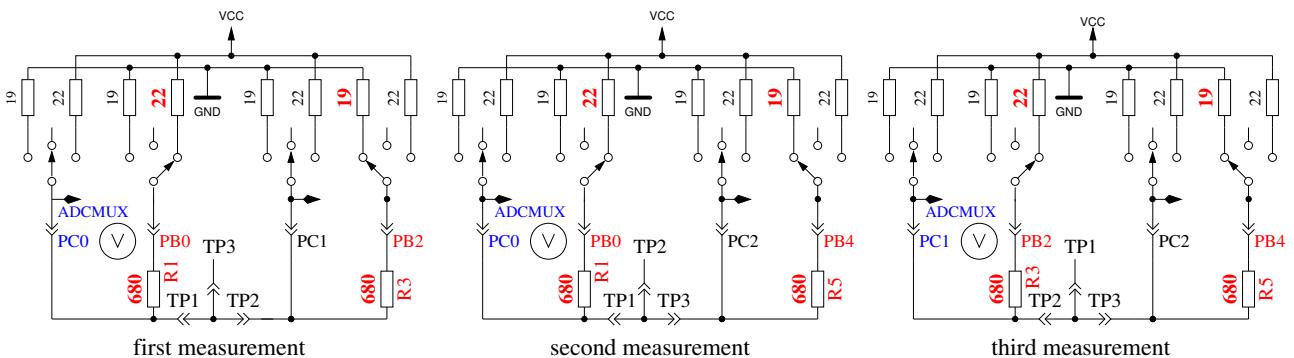

Figure 5.42: Comparison of 680Ω resistors
2. **Comparing of the 680Ω resistors.** In row 1 the cryptic text “+RL- 12 13 23” is shown. Meaning of this is as follows: The RL is the short form of Resistor Low meaning the 680Ω resistors. The 12 stand for: resistor at pin 1 is connected to VCC (+) and resistor at pin 2 is connected to GND (-). The result of this measurement is displayed in row 2 at the first place as difference to the theoretical value. In row 1 follows now a “13” which means, that the first connection of measurement 1 is still connected with 680Ω to VCC but that the resistor of pin 3 is connected to GND. The result is displayed in the middle place of row 2 as difference to the theoretical value. The last measurement of this test “23.” means that now the resistor at pin 2 is connected to VCC (+) and the resistor of pin 3 is connected to GND. The result of measurement is displayed at the last place of LCR row 2 as difference to the theoretical value. Please remember, that the resolution of the ADC is about 4.88mV! The measurement situation is also shown in figure 5.42. The theoretical value with respect to the internal resistance of the pins should be: $\frac{5001 \cdot (19+680)}{(19+680+680+22)} = 2493$.